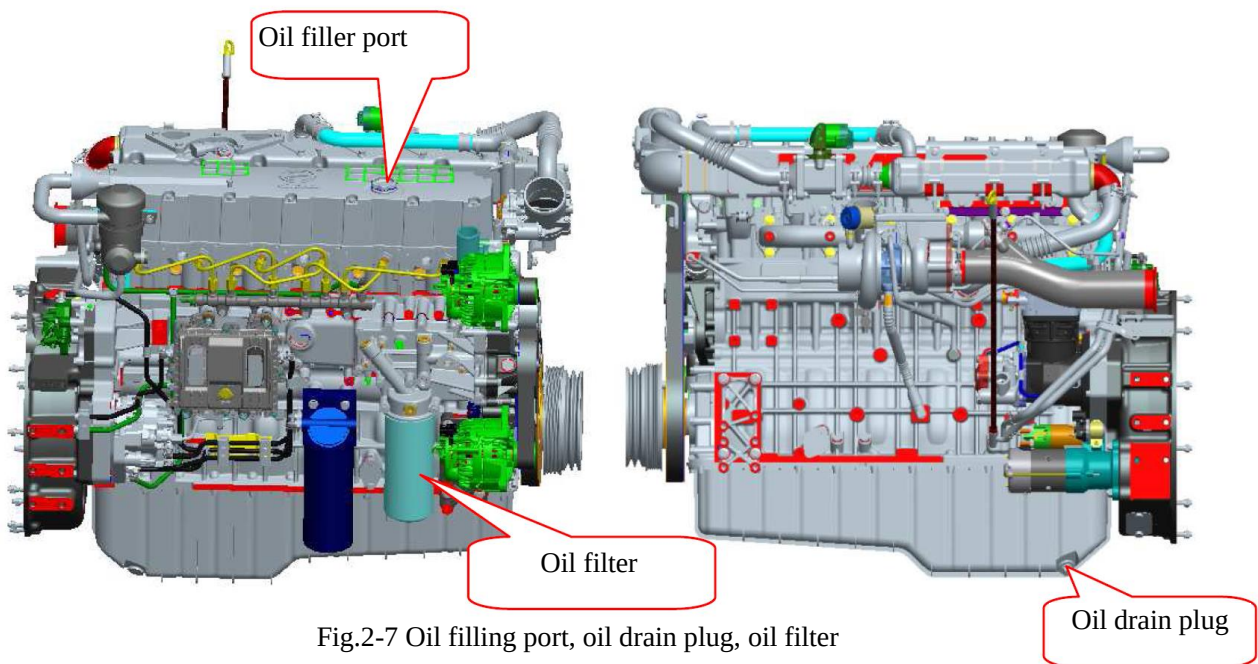

Fig.2-7 Oil filling port, oil drain plug, oil filter
- Change the diesel engine oil. As shown in fig. 2-7.